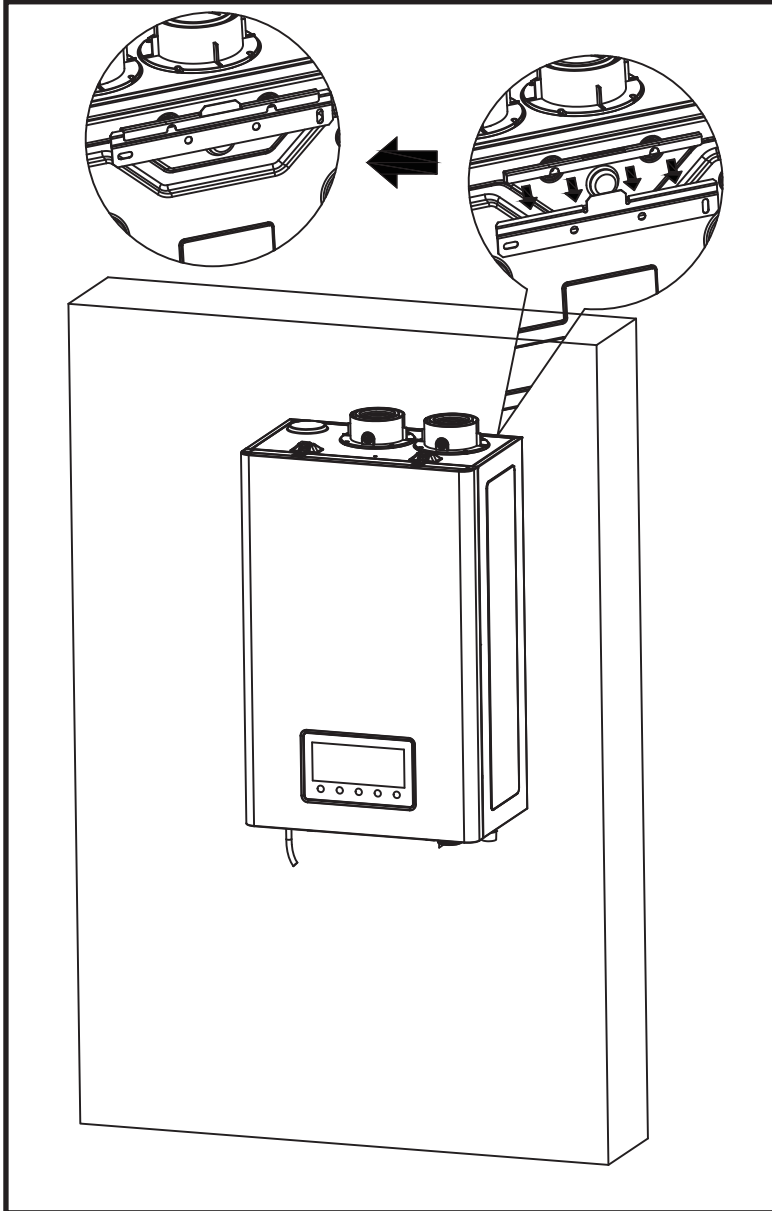

Fig. 6.4
3. Align the grooves on the back of the water heater with the convex on the upper bracket. Then, hang the unit on the bracket. (See Fig. 6.4)